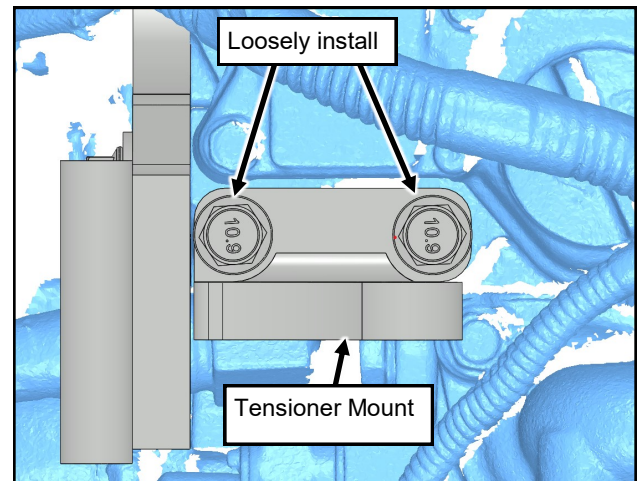

Fig. 1.39 (Loosely install M8x1.25 x 50 screws)
1.39 With 5/16" washers and supplied red Loctite, loosely thread in two M8x1.25 x 50 hex screws into the tensioner mount holes shown in Figure 1.39.